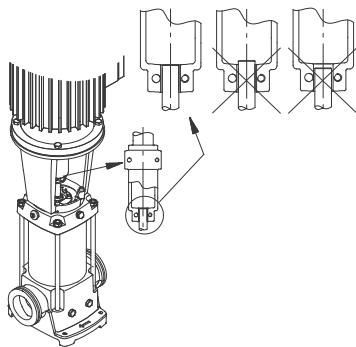

Fig. 20 Coupling adjustment, CR, CRN 32, 45, 64, 90, 120, and 150
3. Fit the coupling on the shaft so that the top of the pump shaft is flush with the bottom of the coupling chamber. See fig. 20.